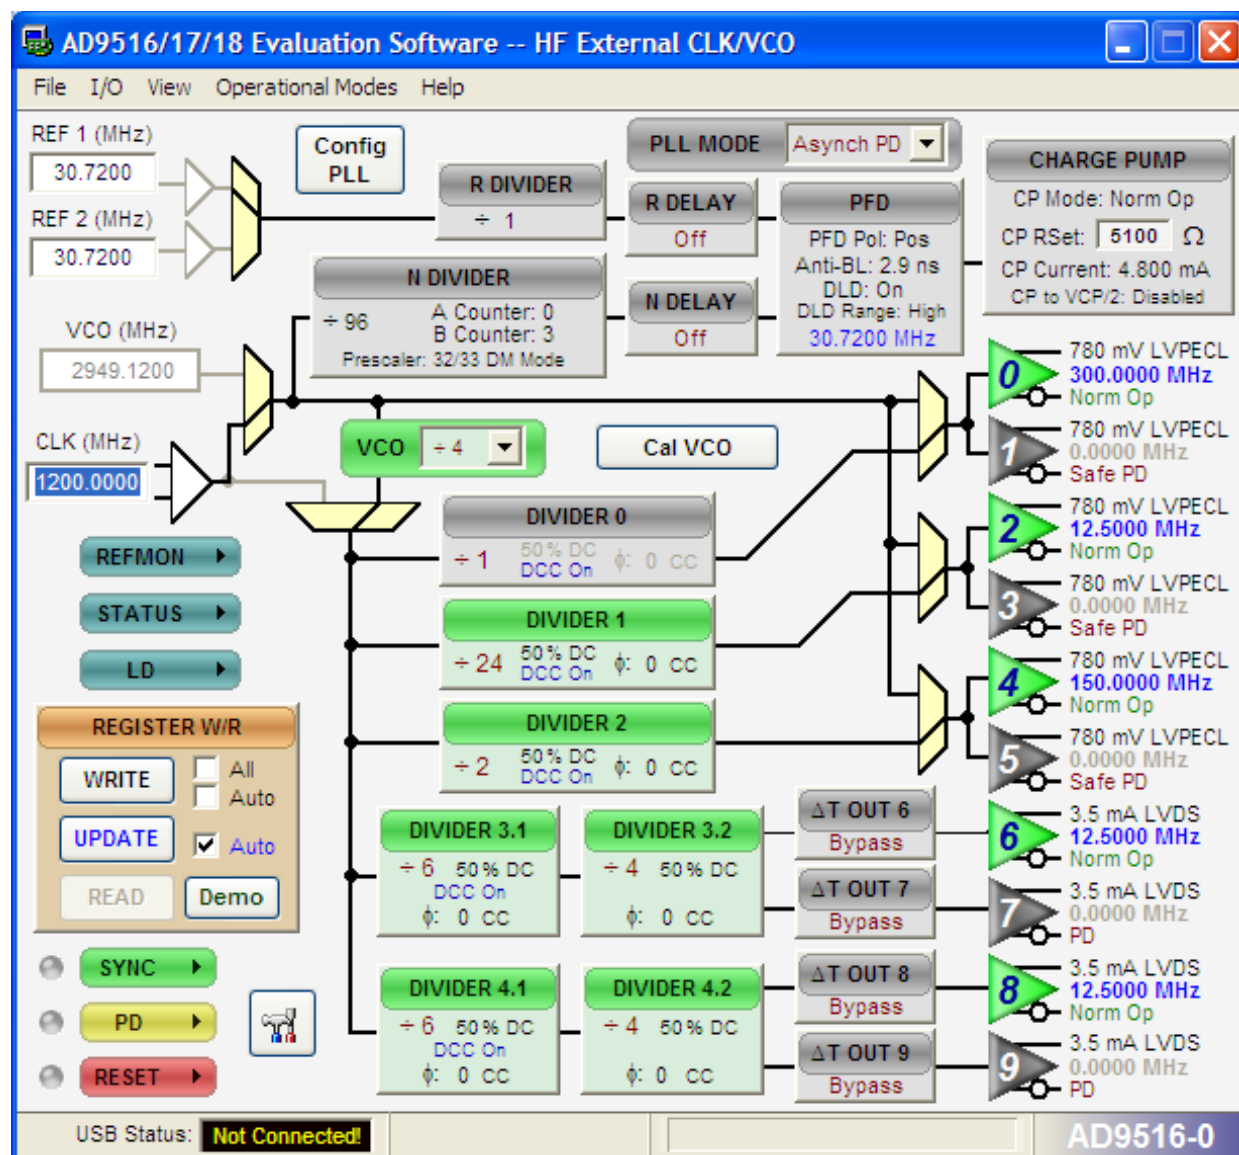

Figure 8. Evaluation Software Main Window
1. Turn the PLL on by selecting **Normal Op** from the **PLL MODE** box found at the top of the main window (see Figure 8).